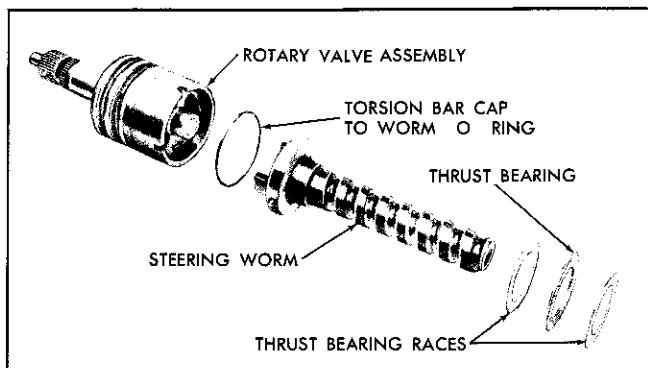

Fig. 9-67 Exploded View of Worm Shaft and Rotary Valve
1. Assemble lower thrust bearing and races on worm (Fig. 9-67).